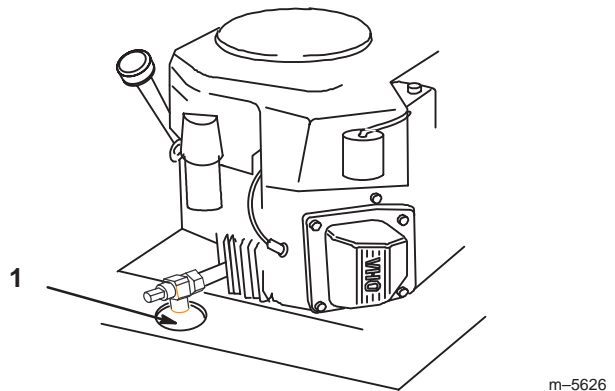

Figure 30
3. Place a pan below the oil drain. Remove the oil drain cap (Fig. 30).